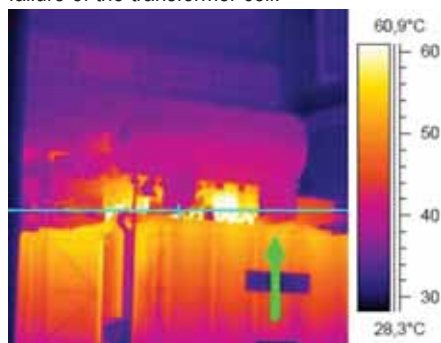

Fig. 5: Thermal imaging of transformer under TR test...
Therefore, the Hot Spot Factor (H) in IEC 60076-2 appeared to be 2.0. In order to estimate the transformer life accurately, the hot spot temperature or hot spot factor detected by the paper winding should be applied to the IEEE and IEC standards. The thermal imaging of transformer during temperature rise gives index for heat distribution as shown in the figure 5. The losses gradually increase the temperature, damaging the insulation and overheating the core hence causing the failure.